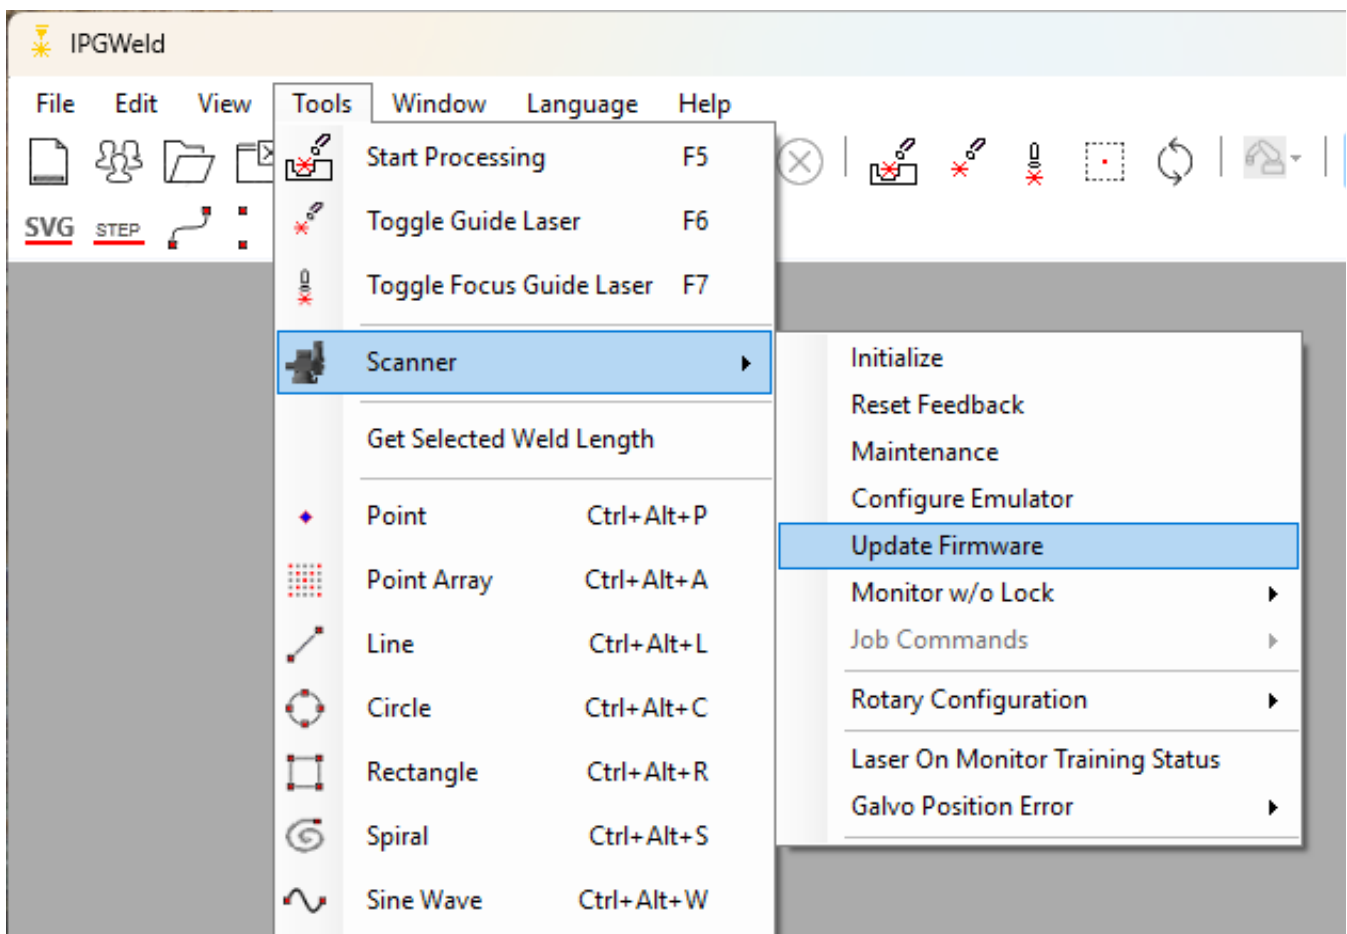

Figure 374: Opening the Update Firmware Window
3. Navigate to **Scanner** and click **Update Firmware**. See Figure 374 (below).